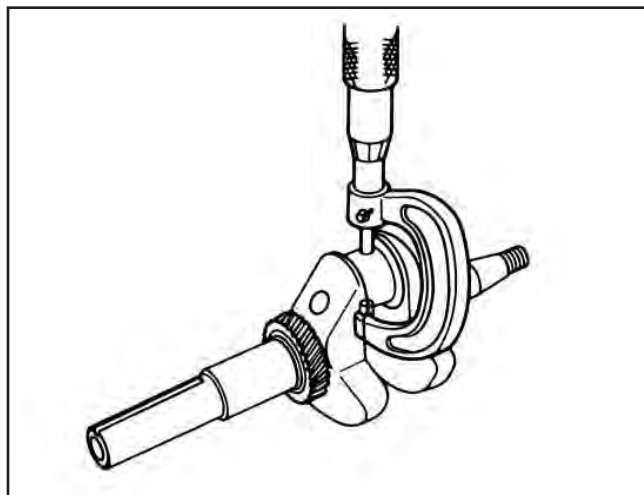

Figure 8
2. Measure each bearing surface (upper bearing, rod bearing, and lower bearing), compare to specifications. (Figure 8).